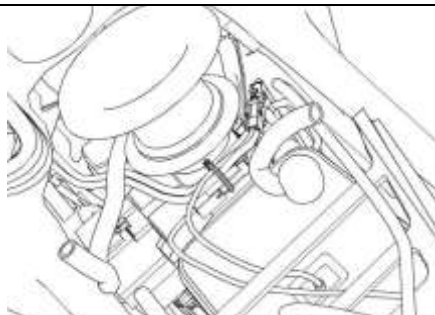

Figure 9
8. Locate the O2 sensor connector. Remove the tie wrap and open the connector (Figure 9).